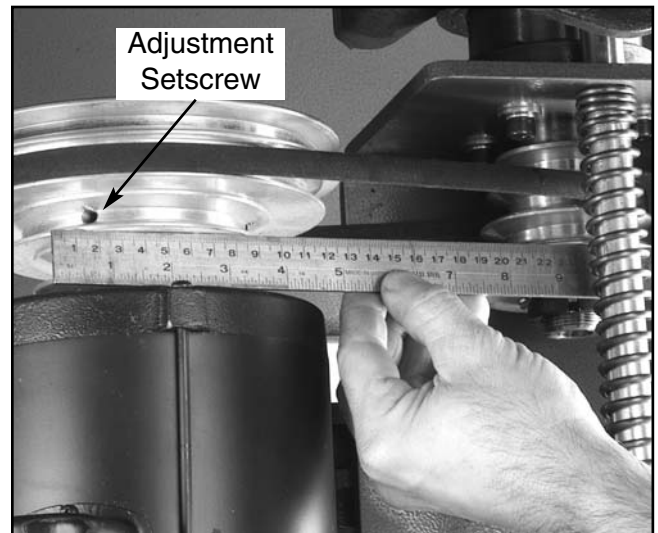

Figure 25. Inspecting pulley alignment.
2. Check the alignment with a straightedge. If the pulleys are in alignment, the straightedge should touch two sides of each pulley evenly as in **Figure 25**.
7. You can also make small adjustments in the motor pulley alignment by raising or lowering it along the motor shaft. To do this, loosen the two setscrews (one is shown in **Figure 25**) which are in the lowest groove of the motor pulley and move the pulley into position. Tighten the setscrews when the alignment is satisfactory.